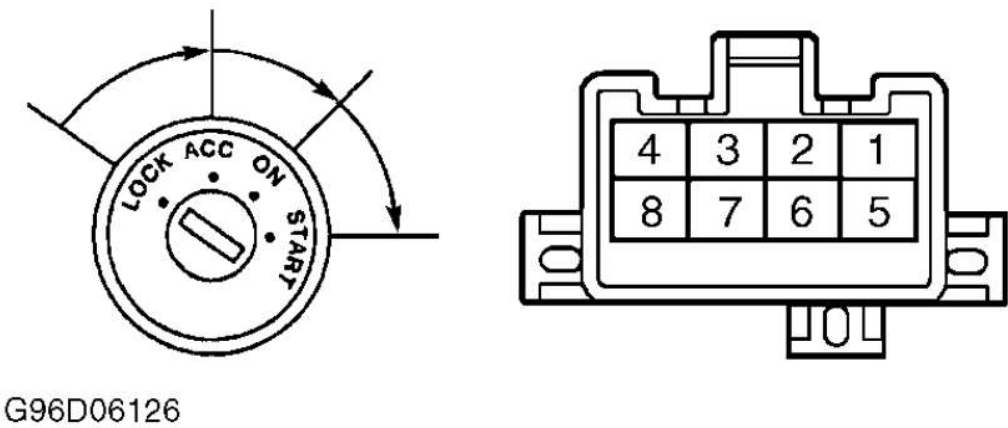

Fig. 4: Ignition Switch 8-Pin Connector (All Others)
1. Deactivate air bag system. See AIR BAG RESTRAINT SYSTEMS article. Disconnect negative battery cable. Remove driver's lower instrument panel cover. Remove upper and lower steering column covers if needed. Locate ignition switch wiring harness 8-pin connector. See **Fig. 4**.